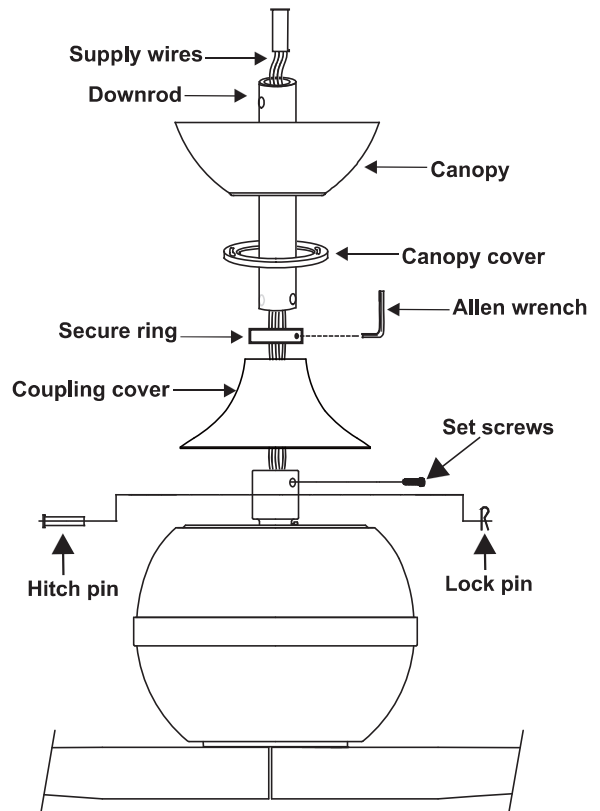

Figure 9
5. Loosen the two set screws and remove the hitch Pin and lock pin from the central shaft/top coupling of the motor assembly. Doing so will allow the down rod to enter the central shaft. (Fig. 9)